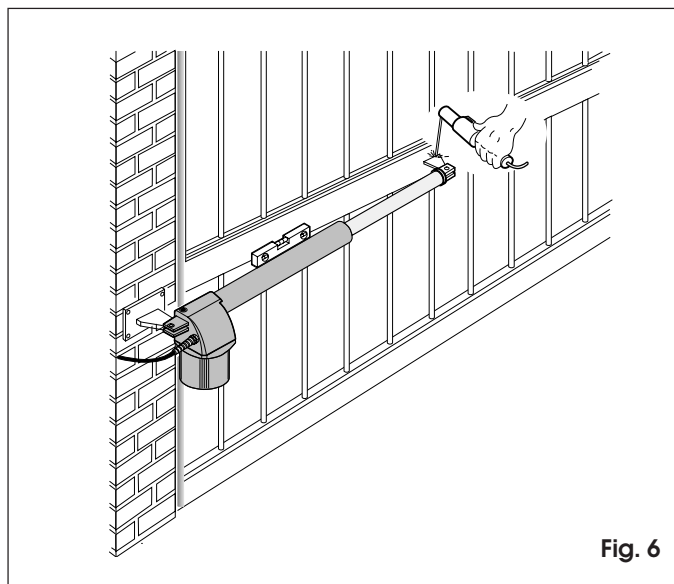

Fig. 6
- 8) Close the gate leaf and, keeping the operator perfectly horizontal, locate the leaf attachment position on the front bracket (fig. 6).